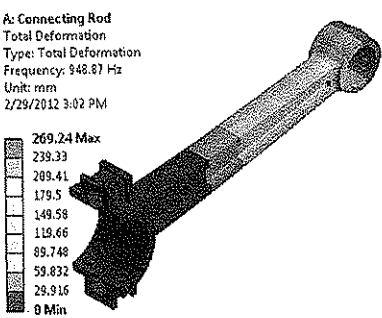

Figure 10-32 First mode shape
8. Select **Total Deformation** under the **Solution** node in the Tree Outline; the first mode shape is displayed in the Graphics screen, as shown in Figure 10-32.
1. Select **Total Deformation** under the **Solution** node from the Tree Outline in the **Mechanical** window; the first mode shape is displayed in the Graphics screen, refer to Figure 10-32. Also, the **Graph** and **Tabular Data** windows corresponding to the first mode are displayed.